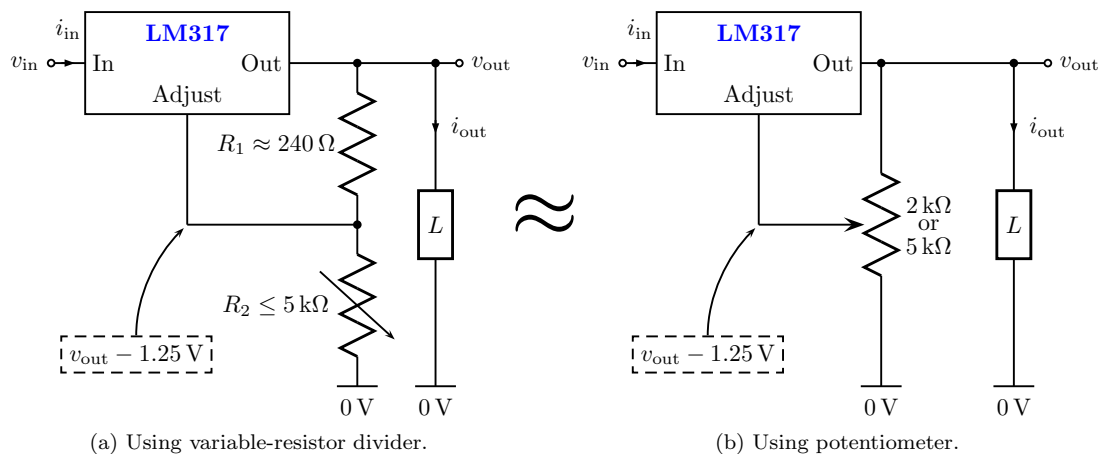

Figure 6.1: **LM317** adjustable series voltage regulator with load L . Use $40\text{ V} > (v_{in} - v_{out}) > 3\text{ V}$.
The two circuits in Figure 6.1 are identical. The **LM317** maintains 1.25 V potential difference between its “Out” and “Adjust” pins, and the voltage divider acts as a lever propping v_{out} above the ground reference.
In Figure 6.1\(a\), the (temperature-independent) output is given by
The less conventional circuit in Figure 6.1\(b\) may also be used (with caution).
1. Design (i.e., choose components for desired output) and build the regulator in Figure 6.1\(a\) or 6.1\(b\) from page 11.
- (i) From Figure 6.1\(a\), set $R_1 \approx 240\ \Omega$ and calculate R_2 . Implement R_2 with a variable resistor made from adjacent legs of a $2\text{ k}\Omega$ or $5\text{ k}\Omega$ potentiometer.
- (ii) From Figure 6.1\(b\), adjust a $2\text{ k}\Omega$ or $5\text{ k}\Omega$ potentiometer for the right $R_1/(R_1 + R_2)$ ratio.